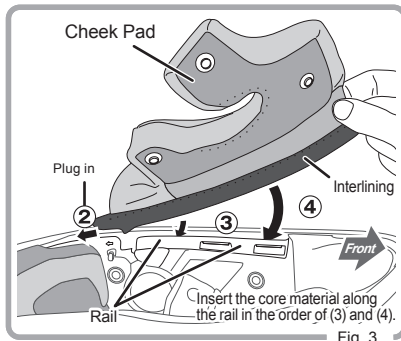

Fig. 3
2. Insert the tip of the Interlining behind the cheek pad into the insertion part. (Turn up the Rubber trim a little to find the insert.) (Fig. 3)
- 3-4. Insert the Interlining along the gap. (Fig. 3)